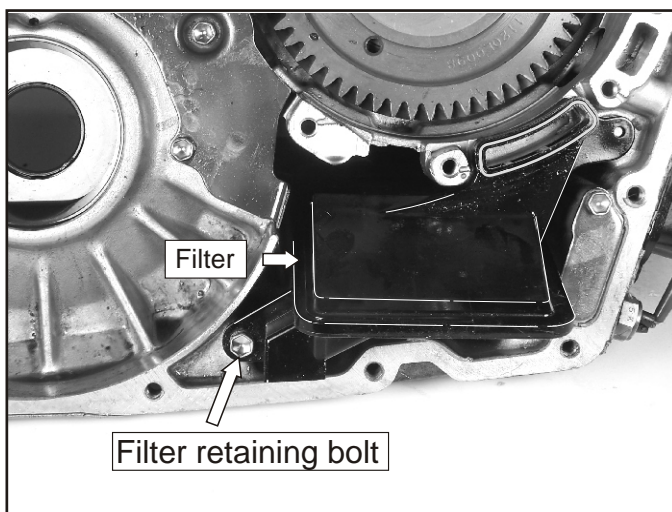

Figure 275
- 199. Install the new filter onto the case as shown in Figure 275. Install the filter retaining bolt and torque to 71-106 in. lb. **Note the bolt length is 13mm long.**